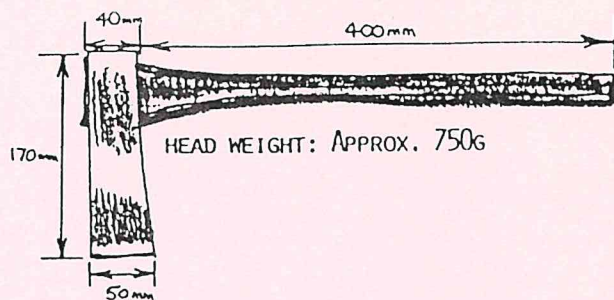

Figure 2
3.6.1 Notching axe (see Figures 2 and 3) and